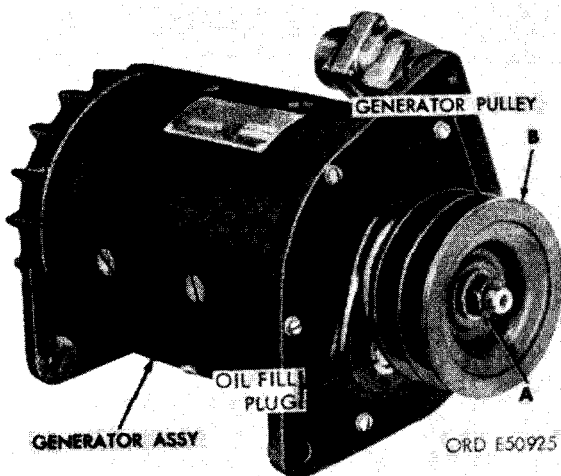

FIGURE 42. REMOVING OR INSTALLING GENERATOR PULLEY.
- (2) Figure 42. (A) Remove 1/2-inch self-locking nut and 1/2-inch flat washer securing generator pulley to generator armature shaft. (B) Remove generator pulley from shaft using a suitable pul-